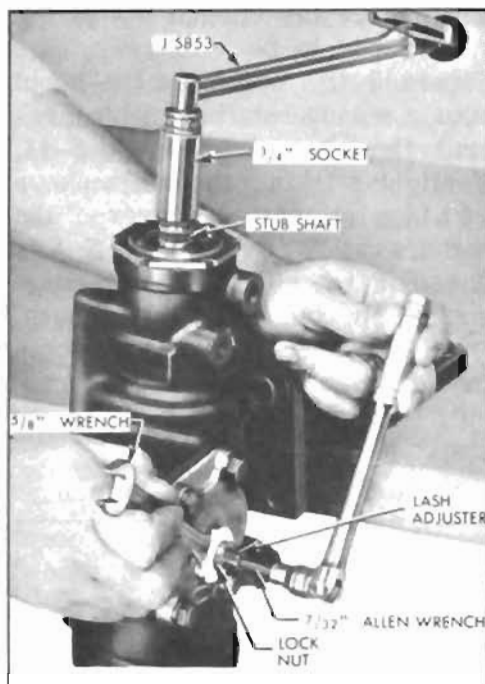

Figure 8-34—Pitman Shaft Over-Center Adjustment
5. If readings are within specifications, check and adjust if necessary, pitman shaft "overcenter" adjustment. Reading on torque wrench should be 4 to 8 inch pounds higher than was obtained in Step 5. See Figure 8-34. This reading is taken when rotating stub shaft through "high-point" range with lash adjuster nut tight.